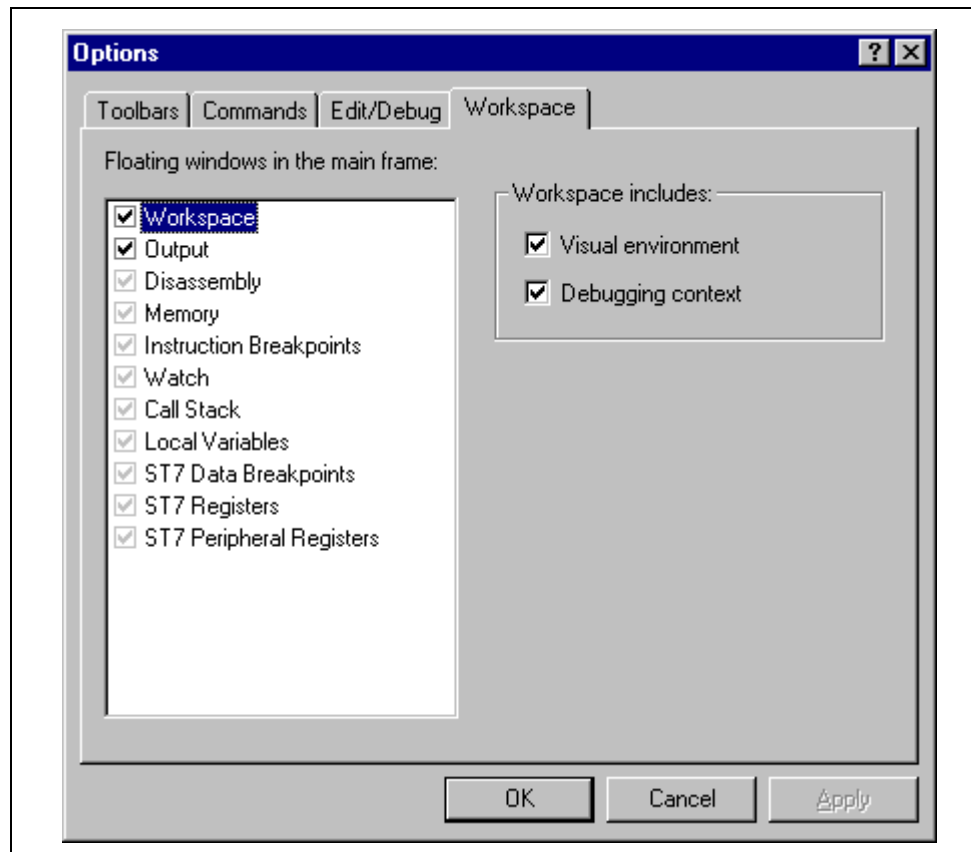

Figure 9: Workspace tab of Options window
- 2 In the Options window that opens (see *Figure 9 on page 35*), select the **Workspace** tab.